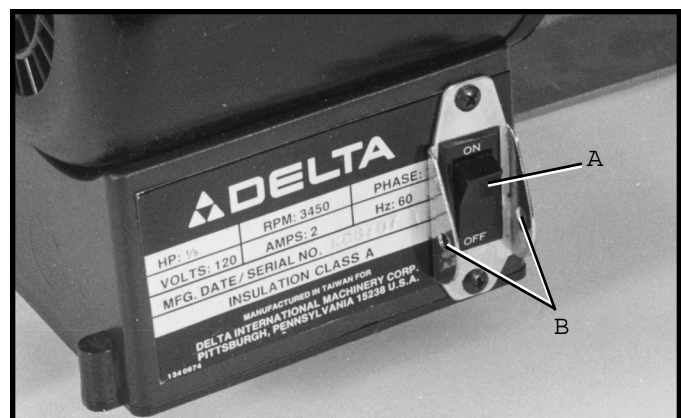

Fig. 14
The switch (A) Fig. 14, is located under the grinder motor. When the switch is pushed to the ON position, both grinding wheels will turn. To stop the grinding wheels, push the switch to the OFF position. **IMPORTANT:** We suggest when the grinder is not in use, the switch be locked in the OFF position, using a padlock thru the two holes (B) in the switch plate.